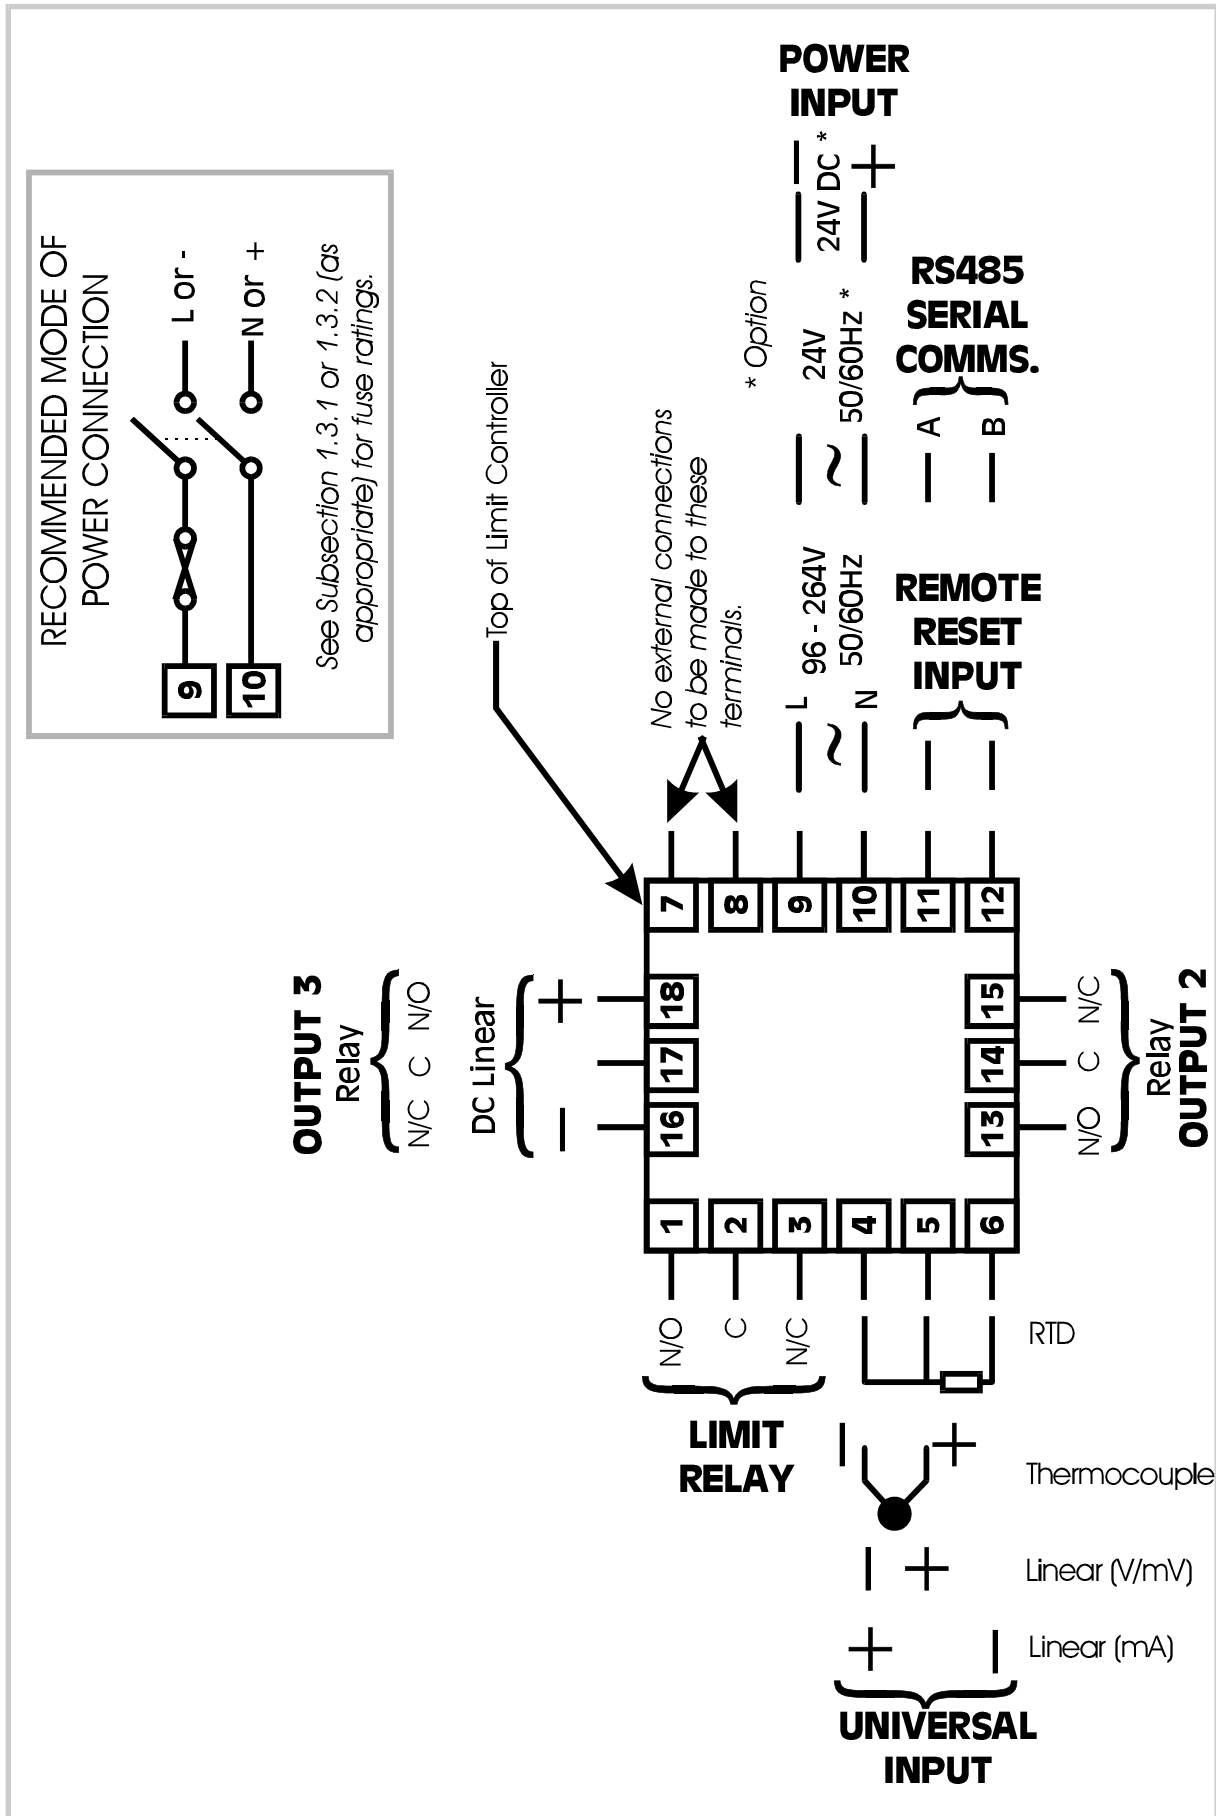
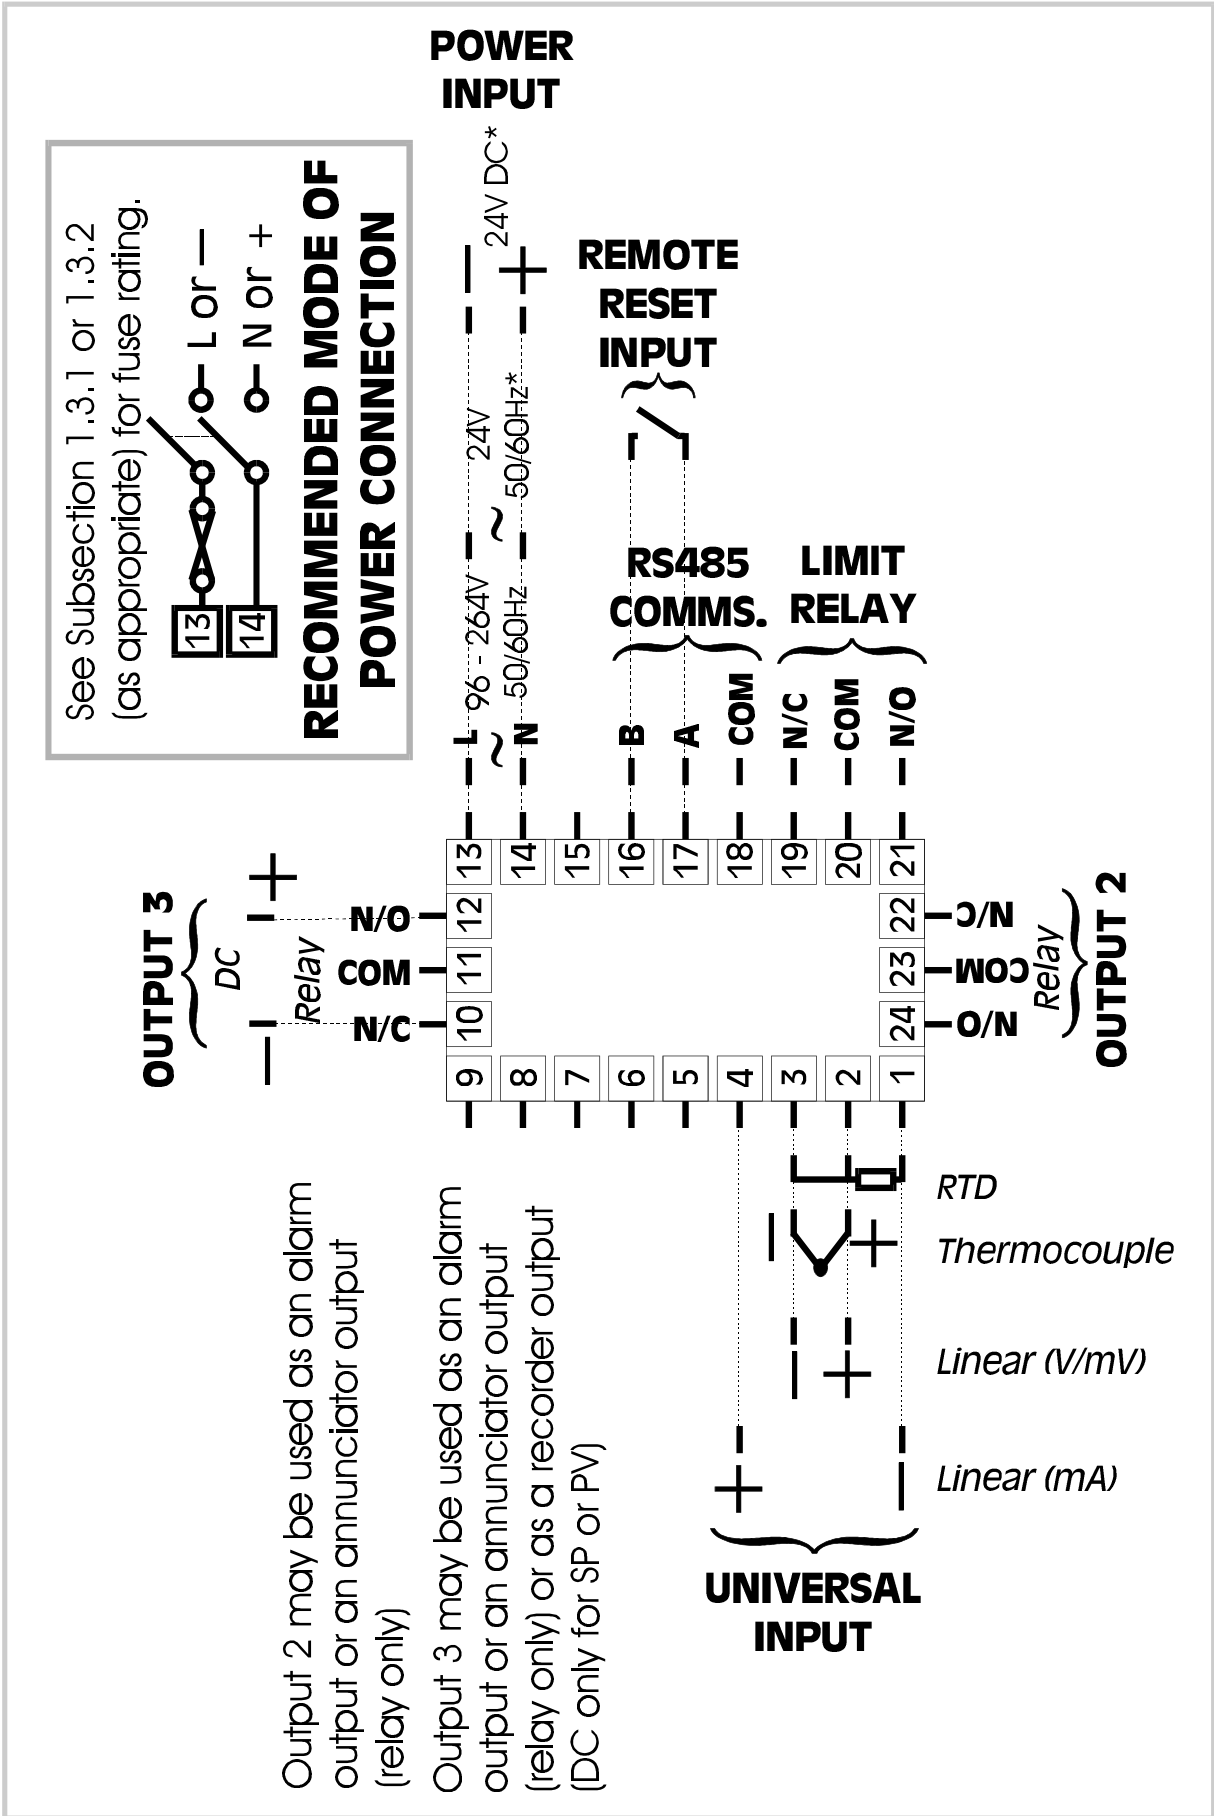

Figure 1-4 Rear Terminal Connections ( $\frac{1}{16}$ -DIN Limit Controller)
Figure 1-5 Rear Terminal Connections (1/4-DIN Limit Controller)
The rear terminal connections are illustrated in Figures 1-4 ( $\frac{1}{16}$ -DIN instrument) and 1-5 ( $\frac{1}{4}$ -DIN instrument).
**CAUTION:** This equipment is designed for installation in an enclosure which provides adequate protection against electric shock. Local regulations (e.g. National Electrical Code, British Standards) regarding electrical installation should be rigidly observed. Consideration should be given to prevention of access to the power terminations by unauthorised personnel. Power should be connected via a two-pole isolating switch (preferably situated near the equipment) and a 1A fuse (see Figure 1-4 or Figure 1-5).
See Figure 1-4 or Figure 1-5 and Appendix A.